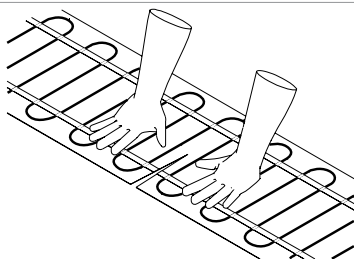

Figure 14
- If the mat ripples, score the center of the rippled section and flatten the edges (figure 14).